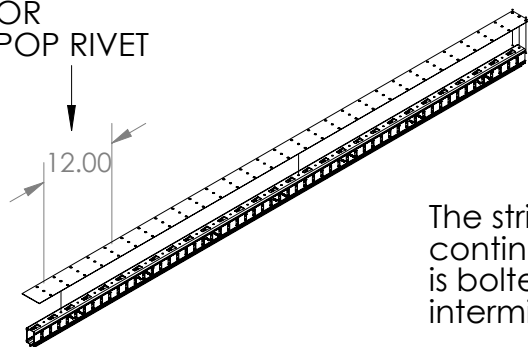

FIGURE 11
**2E.** Put combination clips on post on 12" centers as per step 3 (if supplied), otherwise attach back panel connector strips as shown in Figure 11.